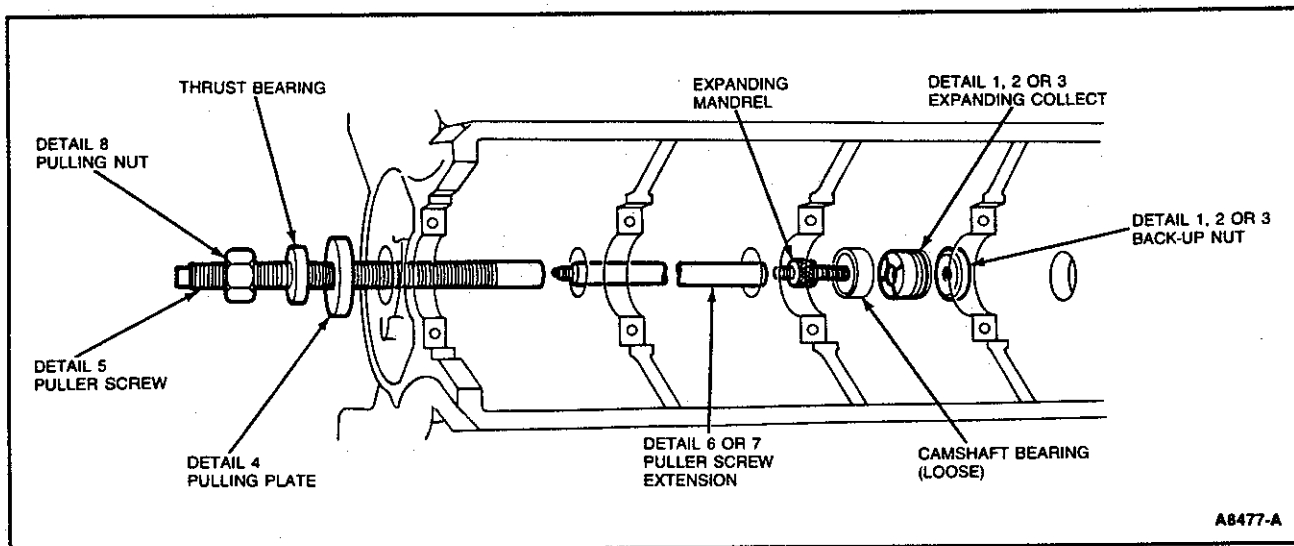
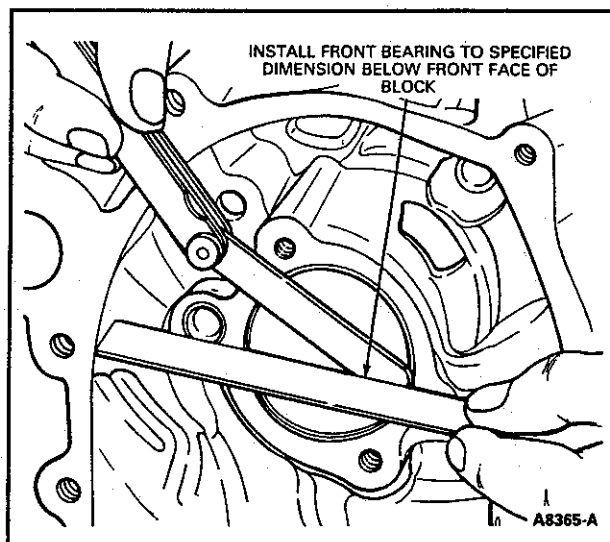

Figure 71 Camshaft Bearing Replacement
Figure 72 Camshaft Front Bearing Replacement
2. Remove the camshaft rear bearing bore plug. Remove camshaft bearings (Figure 71).
1. Position the new bearings at the bearing bores with the oil holes aligned and press them in place with the tool shown in Figure 71. Be sure to center the pulling plate and puller screw to avoid damage to the bearing. **Failure to use the correct expanding collet can cause severe bearing damage. Be sure the front bearing is installed the specified distance below the front face of the cylinder block (Figure 72).**